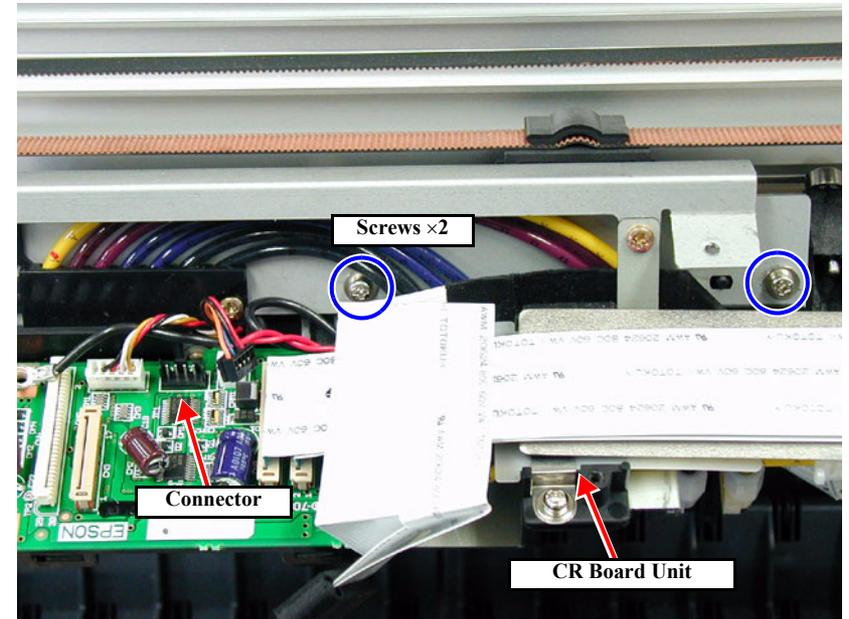

Figure 4-39. Removing the P\_EDGE Sensor ASSY 1/2
7. Remove the two screws securing the CR Board Unit in the Carriage Unit, and take out the CR Board Unit toward the front. (See Figure 4-39)